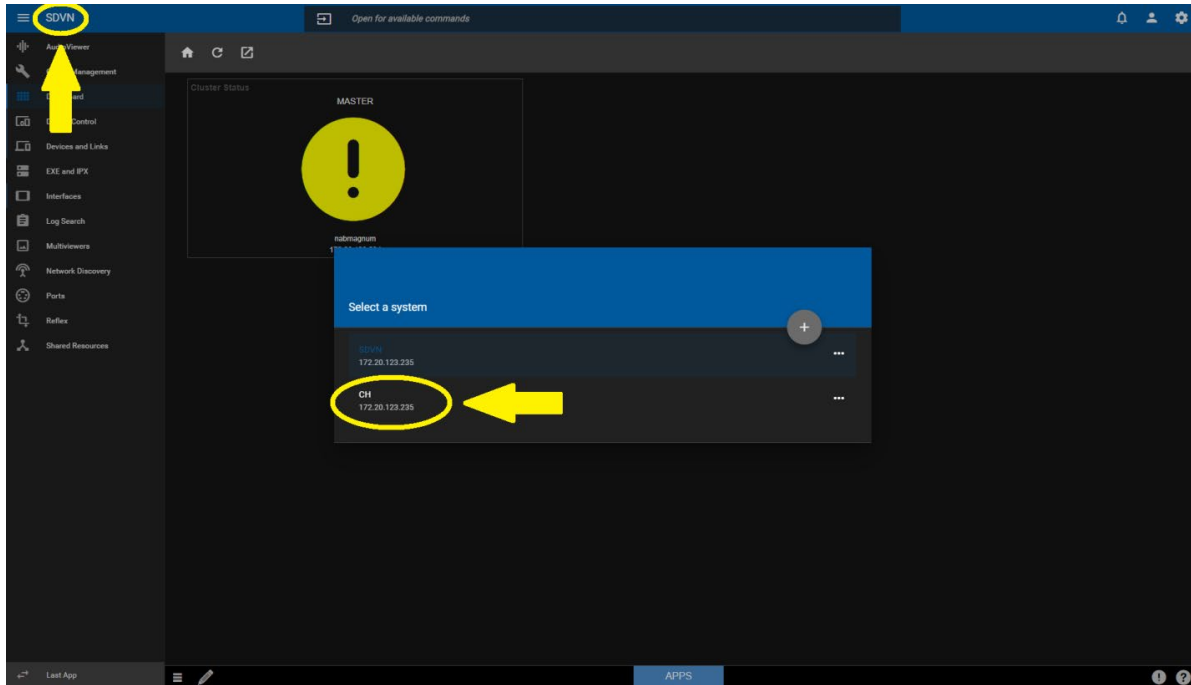

Figure 9-2 : MAGNUM - SDVN Screen
3. Switch to Client Host by clicking “SDVN” at the top-left of the page and then selecting “CH” (Figure 9-2).